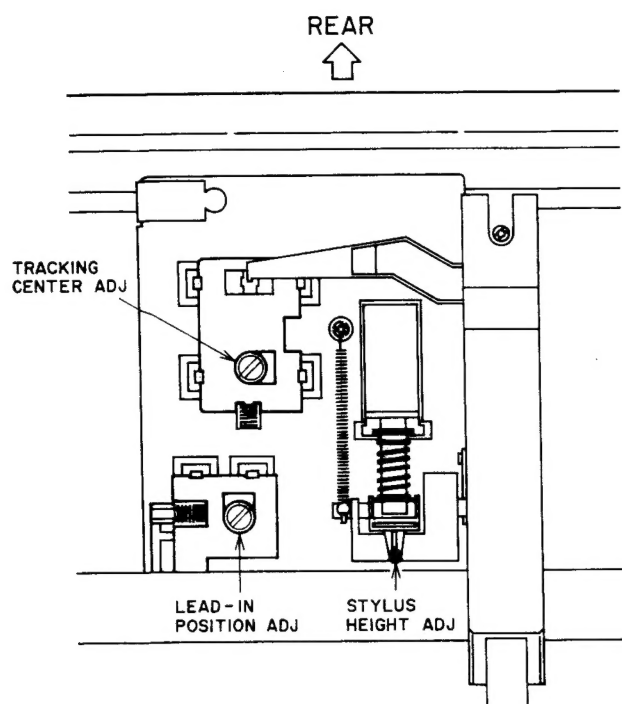

Fig. 6-1 Mechanical Adjustment Points
- 3) If this Lead-in position is incorrect it can be adjusted by turning the LEAD-IN POSITION ADJUSTMENT SCREW (Refer to Fig. 6-1).
- 2) Adjust TRACKING CENTER ADJUSTMENT SCREW (Refer to Fig. 6-1) so that the Digital DC Voltmeter Reading is 0.5 ± 0.3 V.